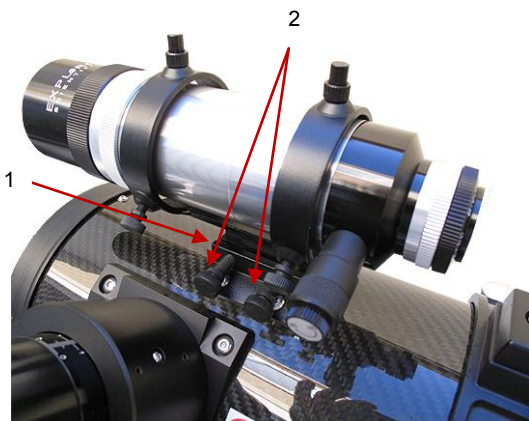

Fig. 3, Dovetail and Attachment Screws
1. Slide the track on the bottom of the finder scope into the slot in the finder scope mounting assembly (1, Fig.3). To secure the finder scope to the mounting assembly, tighten the two thumbscrews (2, Fig. 3) to a firm feel only.